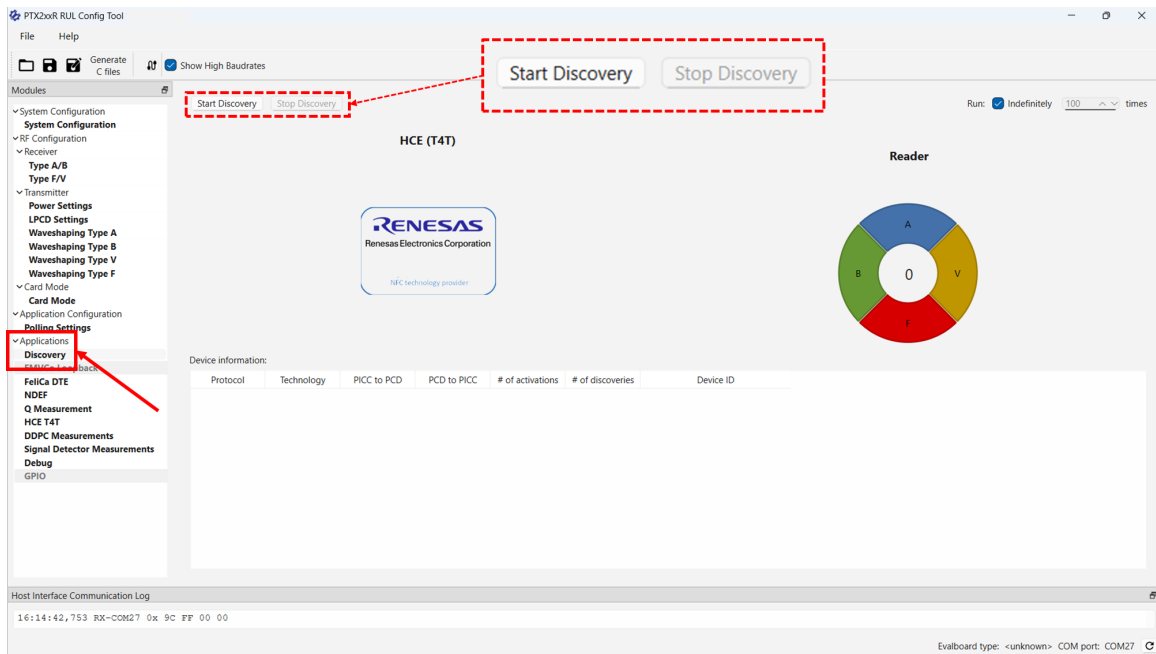

Figure 9. Applications Discovery Module Window
- In the Config Tool window under *Modules*, select *Applications* → *Discovery*. In the windowpane, a screen appears as shown in Figure 9. Use this module to start IoT discovery loop. Click on **Start Discovery** to start the discovery loop; **Stop Discovery** to stop it. The discovery loop may be combined with card emulation that can be enabled in the polling configuration.